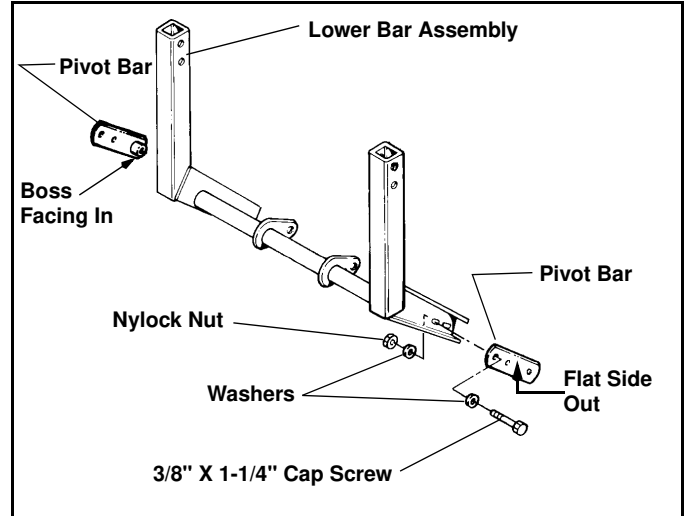

Figure 1
3. Loosely assemble Pivot Bars (#17) to Lower Bar Assembly (#13) outer arms. Use, two (2) 3/8" x 1-1/4" Cap Screw (#20), with two (2) 3/8" Washers on each Cap Screw and Nylock Nuts provided per Pivot Bar. (See Figure 1)
NOTE: Raised Boss on Pivot Bar must face to INSIDE of assembly. (See Figure 1)